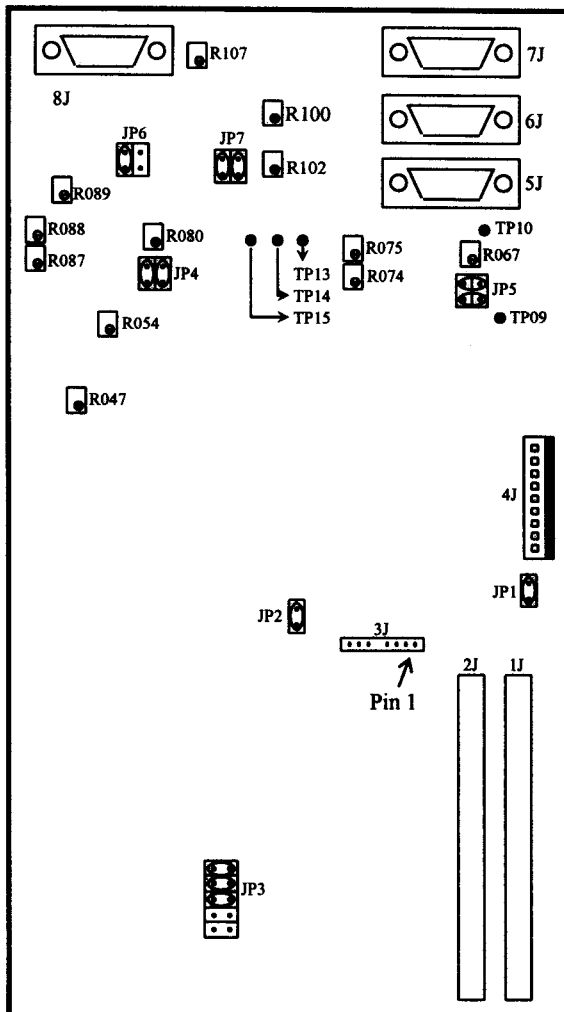
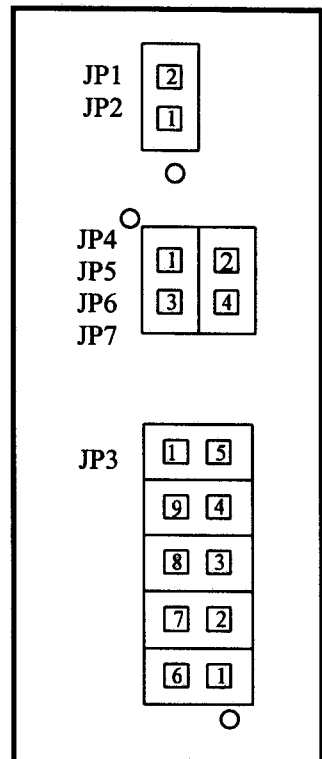

Figure 1.1
Figure 1.2
2. Install the following two-pin jumpers on the board. Figure 1.1 shows potentiometer and jumper header locations, ovals on jumper headers indicate two pin jumper orientation. See Figure 1.2 for jumper header pin designation. A white dot next to the jumper header on the board indicates pin one. If jumpers were installed during assembly verify position.
1. Cut pin 5 off of header 3J on the PCMapII board. See Figure 1.1 for location of pin 1 on header 3J. Pin 5 may have already been removed during manufacturing.